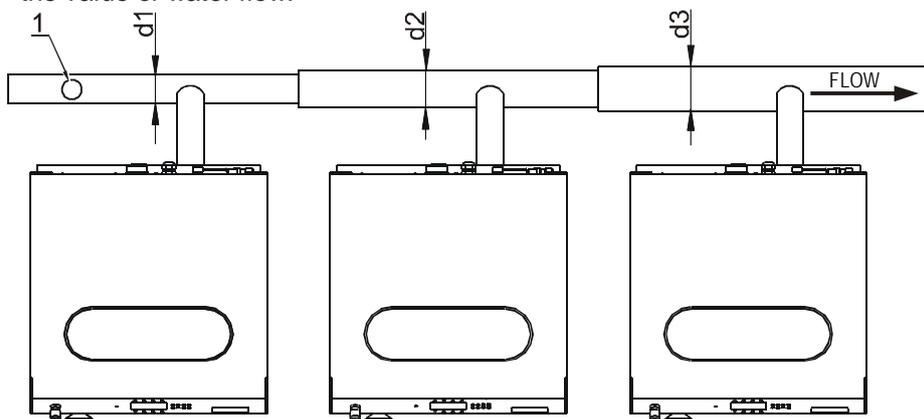

Figure 23 – Recommended drain pipe diameters
- The main drain channel-pipe must have the capacity to be able to handle the total output of all connected machines. In a drainpipe, a deodorizer must be provided every twenty meter, figure 23., pos.1 to assure the good working of the drain pipe. If the main drain pipe cannot be sufficiently deodorized, install a deodorizer per machine. Every time a machine is coupled on the drainpipe, the diameter of the tube or the width of the waste channel must be more. See figure 23., d1, d2, d3.